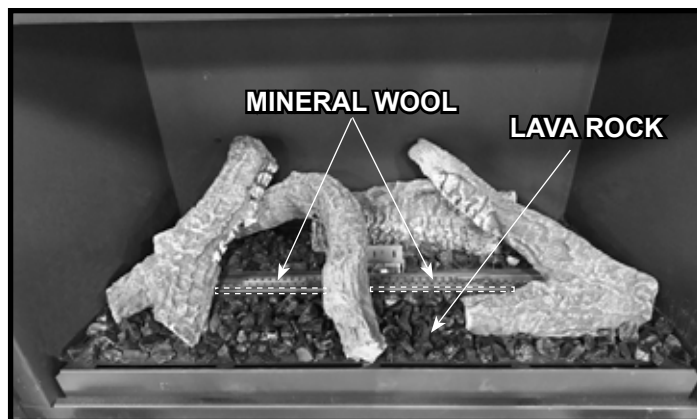

Figure 31. Properly Placed Lava Rock / Location for Mineral Wool
12. Place lava rock onto areas of the base pan to fill in around the logs as desired. It is acceptable to completely cover the base pan. DO NOT cover burner, gaps in front or behind burner, or block the space in front of the pilot assembly. Place lava rock in a single layer so no sheet metal is showing. Figure 31 shows lava rock properly placed in relation to logs and areas that must be avoided.
13. The mineral wool may be placed on two areas of the burner, which are highlighted in Figure 31. One area is in the open space between Log #4 and Log #3. The other is in between Log #3 and Log #6. Place the mineral wool onto the burner between the front row of ports and the gap in front of the burner. DO NOT cover the ports or the gap in front of the burner. The mineral wool may be spread along the burner in front of the “viewing windows” between the logs.